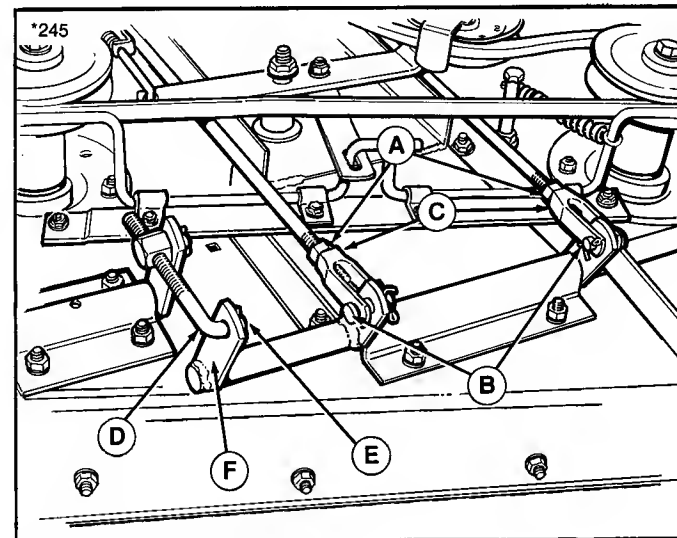

Figure 39. Leveling Mower
5. Remove the cotter pin (E, figure 39) which secures the mower levelling rod (D). Shorten the rod (D) to raise the left side of the mower or lengthen the rod to lower the left side of the mower. Put the levelling rod back in its hole and recheck the measurements. If the mower is level, install the cotter pin (E).